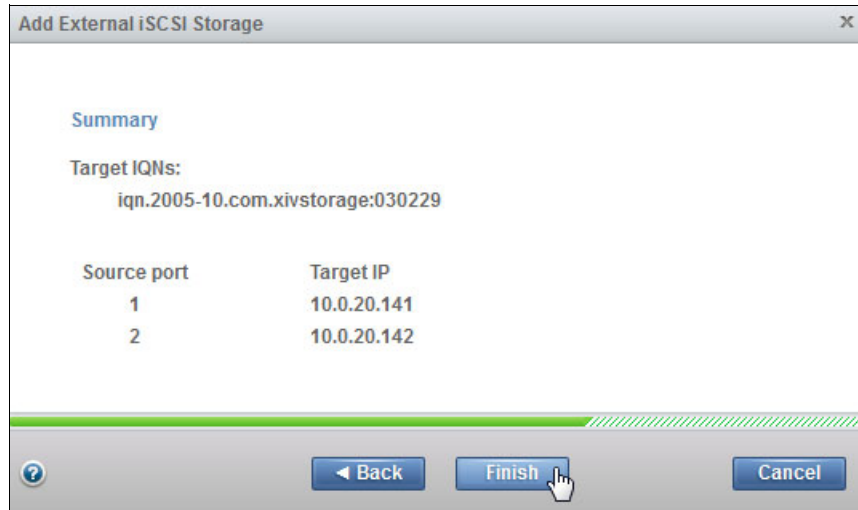

Figure 4-18 Add External iSCSI Storage: Finish
4. Click **Finish** to add the External iSCSI Storage, as shown in Figure 4-18. You can instead run the command that is shown in Example 4-11.